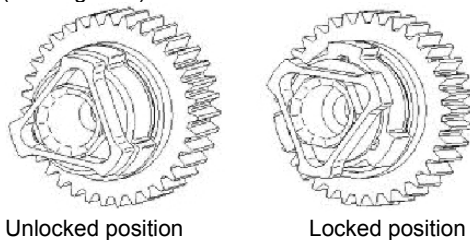

Figure 1
4. Rotate the triangular lock and remove the drive rolls (See Figure 1).